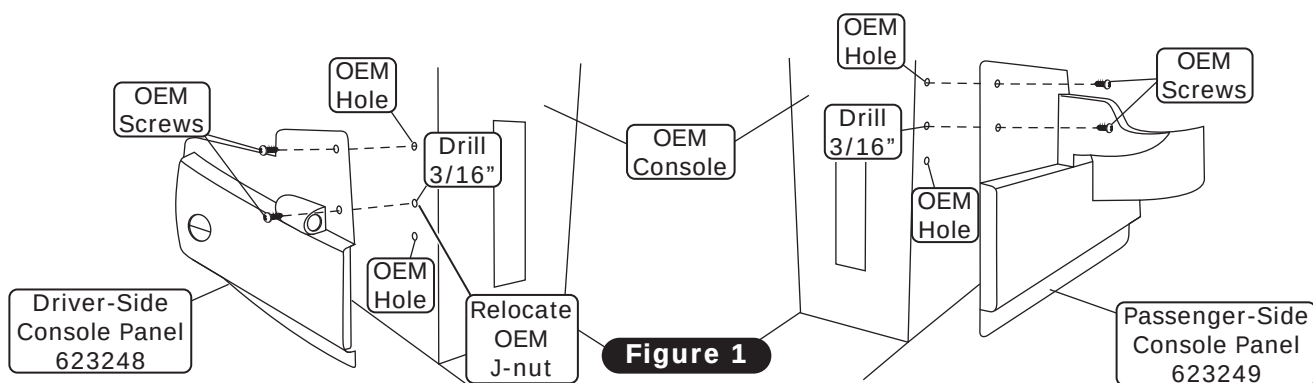

Figure 1
12. Install driver and passenger-side console panels using OEM screws as shown in Figure 1, below. **NOTE: Lower mounting hole must be drilled in OEM console to mount new console. Use driver/ passenger console panel as guide to drill 3/16" hole in console. Relocate OEM J-nut and attach as shown in Figure 1, below.**
1. Remove the (2) bolts securing the hood release bracket (retain hardware).
4. Slide the louver bracket between the parking brake release (See Figure 1, below).